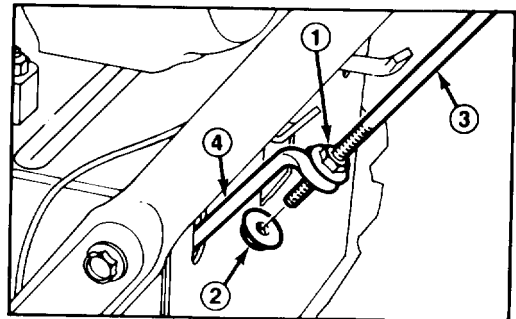
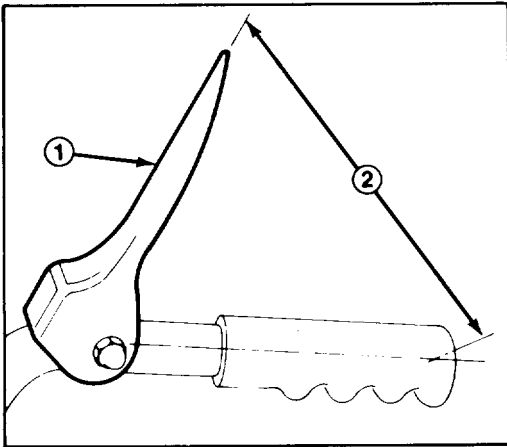

Figure 26
Figure 27
1. Loosen locknuts securing upper traction control rod to lower traction control rod (Fig. 26).
2. Adjust upper locknut (Fig. 26) until there is approximately 5 inches (12.7 cm) between the center of the handle and the tip of the traction control lever (Fig. 27).